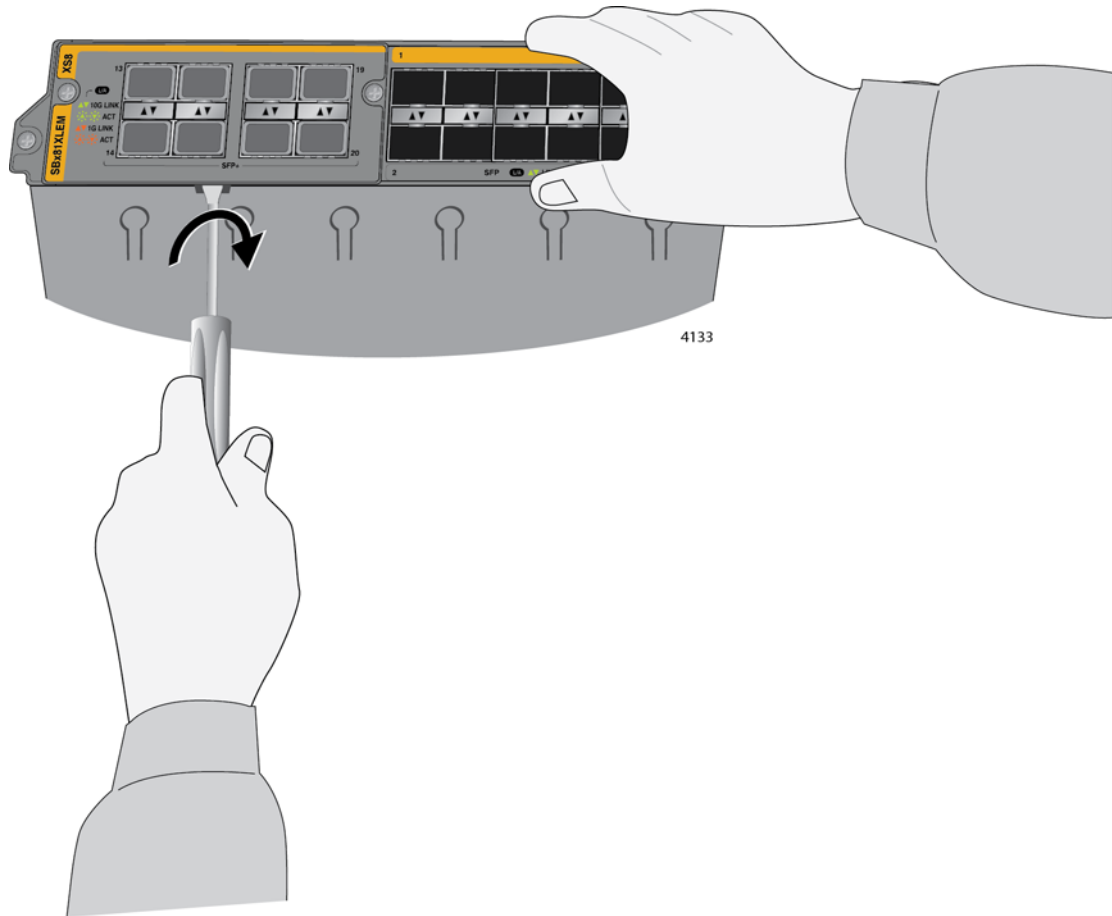

Figure 183. Disconnecting the Expansion Module from the AT-SBx81XLEM Line Card
5. Lift the front of the line card and carefully insert the tip of a flathead screwdriver into the slot beneath the expansion module on the bottom panel. Gently twist the screwdriver to disconnect the module from the connector in the line card. Refer to Figure 183.